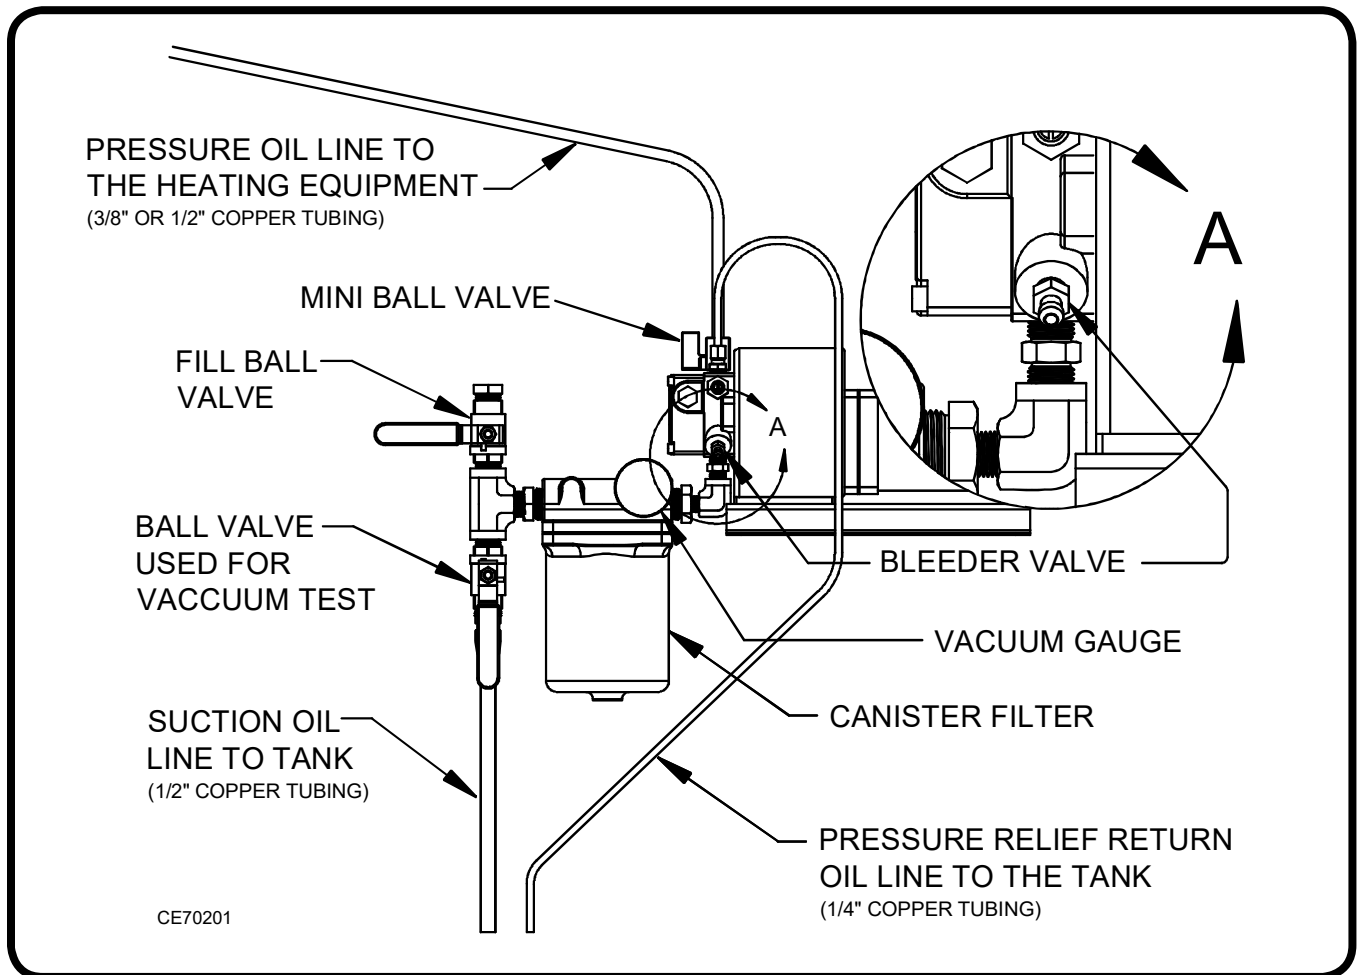

Figure 18: Alternate Horizontal Metering Pump Mounting
- (1) Refer to Figure 18 for an illustration of the alternate horizontal mounting.
- (2) Loosen the pump head and rotate it 90°. The pump assembly may now be mounted in the horizontal position as on a shelf.